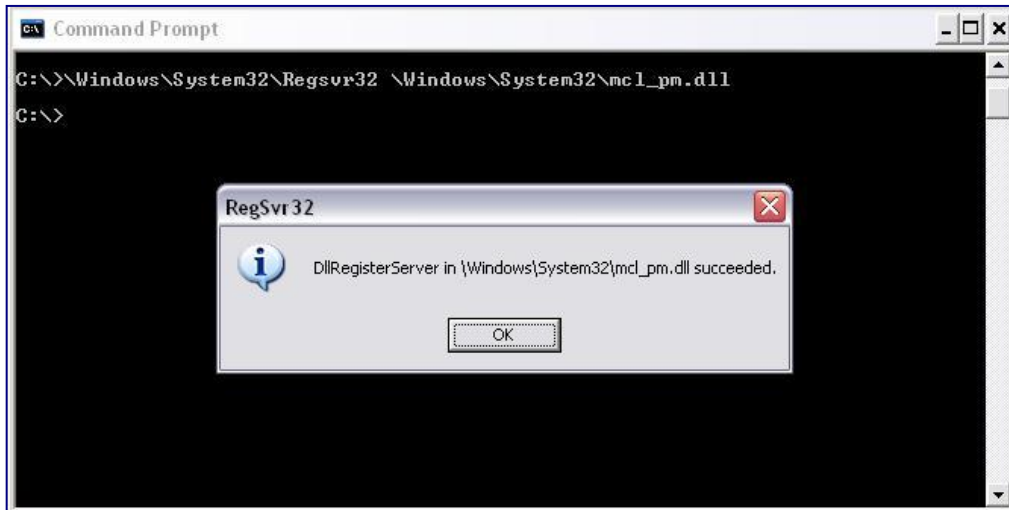

Fig 1.1.2c: Registering the DLL Using the Command Prompt in Windows XP
- a. For 32 bit Windows operating systems (see Fig 1.1.2c) type: